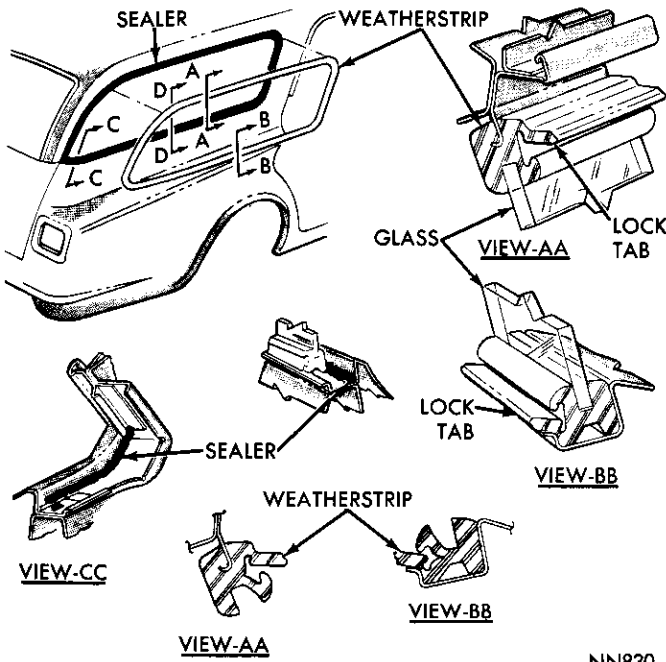

Fig. 79—Quarter Window Replacement
(1) Unlock weatherstrip (Fig. 79) by prying lip of weatherstrip apart, inserting a fibre wedge and with a slight twist to the wedge, move tool completely around weatherstrip forcing the locking tab out.
(2) Carefully loosen weatherstrip from glass on inside and outside surfaces.
(3) With an assistant supporting glass on the out